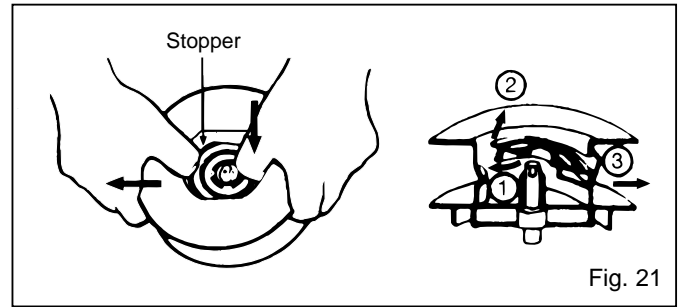

Fig. 21
1. Remove cord reel unit as explained previously in paragraph (1) "Cord reel unit", points 1-3.
3. Press and release the stopper on the cord reel and lift the contact base by pushing its lower end. (Fig. 21)